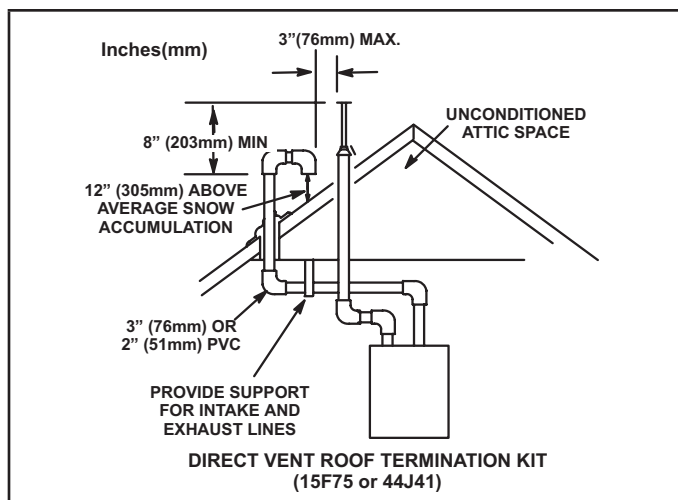
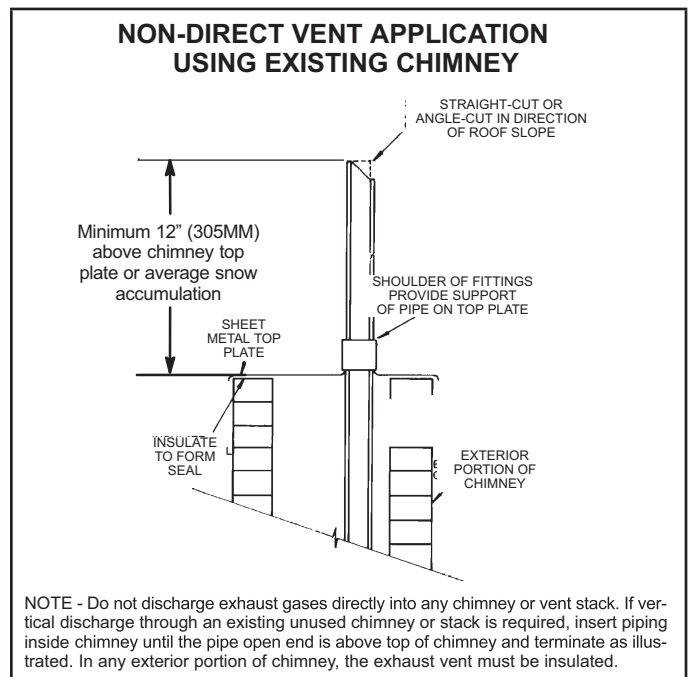

FIGURE 32
FIGURE 42
Intake and exhaust pipes may be routed either horizontally through an outside wall or vertically through the roof. In attic or closet installations, vertical termination through the roof is preferred. FIGURE 32 through FIGURE 42 typical terminations.
- 3 - On roof terminations, the intake piping should terminate straight down using two 90° elbows (See FIGURE 32).
FIGURE 41 and FIGURE 42 show typical terminations.